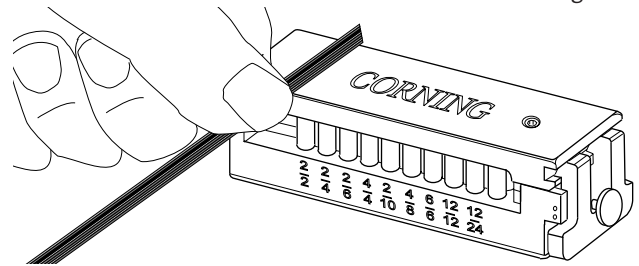

Figure 9
a. Hold the ribbon 2.5 cm (1 in) from its end (Figure 9).